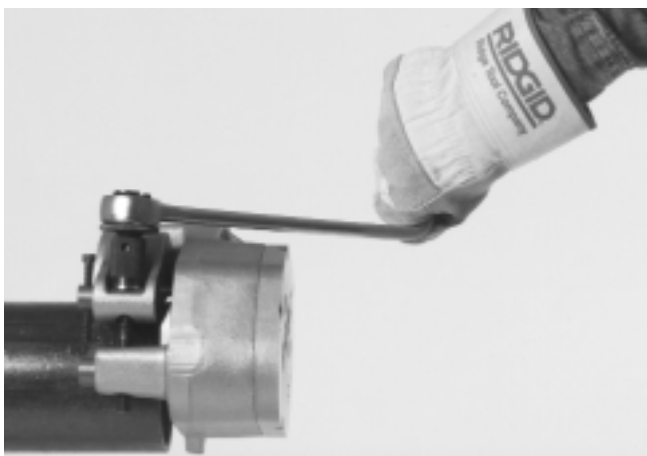

Figure 5 – Ratchet in Feedscrew
1. Place the ratchet into feedscrew (Figure 5).